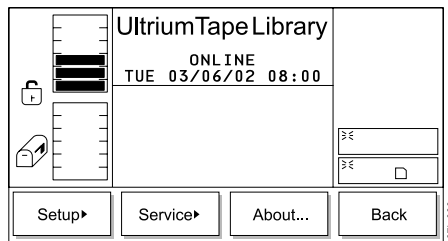

Figure 207. Main Menu (alternate screen)
1. From the Main Menu's initial screen, press the button below the **More** softkey. The Main Menu's alternate screen displays (see Figure 207).